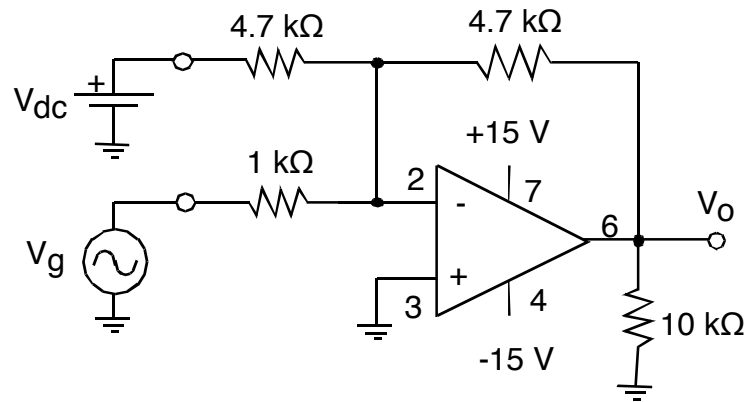

Fig 4: Op-amp summing circuit
(1) With the power off, modify your inverting amplifier circuit as shown in figure 4. Use the +18V output of the power supply for V_{dc} . Turn the +18V output all the way down, so that you can adjust up from zero. This circuit behaves like an inverting amplifier with two inputs. What is the ideal relationship between the output voltage and the inputs V_g and V_{dc} ?
(2) Apply a 1 Volt amplitude sine wave for V_g and 2 Volt DC source for V_{dc} . Observe and record the input/output waveforms on the oscilloscope screen. Pay close attention to the ground signal level of the output channel on the oscilloscope screen (note: make sure both channels are set for DC coupling). When used in this way, such a circuit could be called a *level shifter*.
(3) Pull out the DC offset knob of the function generator and adjust the DC offset until V_o has zero DC component. Confirm this either by measuring V_o with a DC voltmeter, or by verifying on the oscilloscope that V_o swings equally above and below ground. What must the DC offset of the function generator be? Can you confirm this with a measurement?
(4) Push the DC offset knob back in to reset the offset to zero. With channel 2 of the scope (the channel connected to the op-amp output) set for 5V/div, turn up V_{dc} slowly to +18V. What happens to V_o ? Record the DC voltage of the output.
(5) Return V_{dc} to approximately +2V. Set the scope to 1V/div, AC coupled, and adjusted so you can see the complete V_o waveform. Turn V_{dc} back up to 18V. What does the oscilloscope trace for V_o look like? Does the amplifier appear to be amplifying?